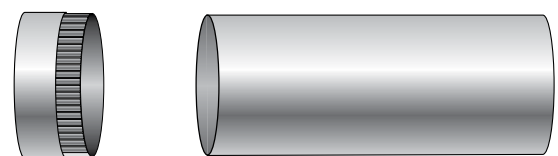

FIG. 21
- Push End Cap firmly into open pipe end [FIG. 21].